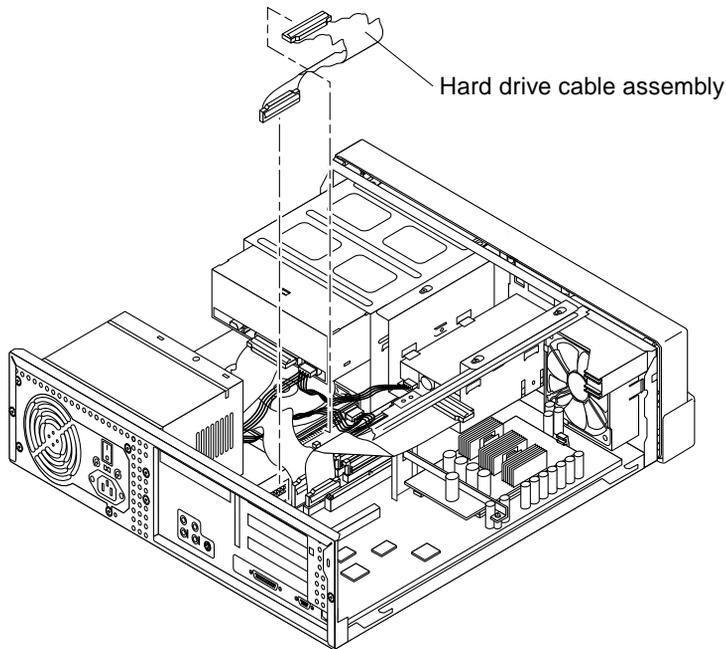
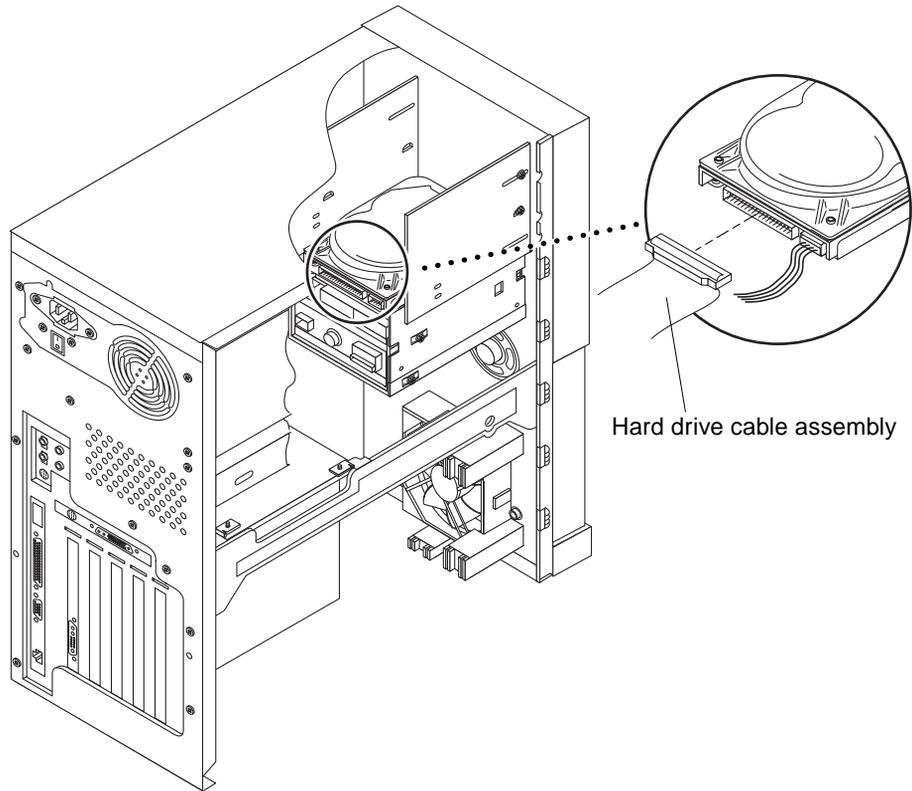

FIGURE 8-5 Removing and Replacing the Hard Drive Cable (Ultra 5)
FIGURE 8-6 Removing and Replacing the Hard Drive Cable (Ultra 10)
4. Disconnect the hard drive cable assembly connectors from the following (FIGURE 8-5 or FIGURE 8-6):
1. **Replace the hard drive cable assembly as follows (FIGURE 8-5 or FIGURE 8-6):**